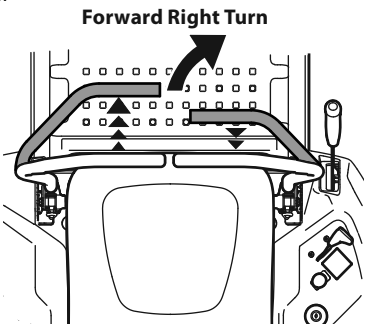

Figure 27
2. To turn to the right, move the right drive control lever rearward of the left lever. See Figure 27.